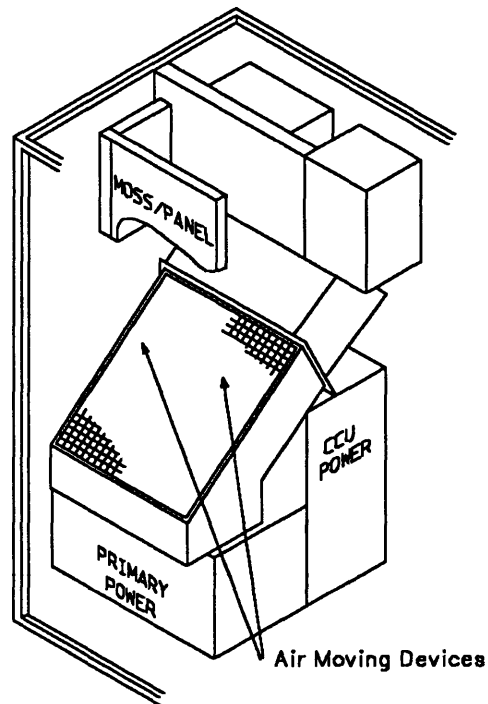

Figure 5-81. Air Moving Devices Location
2. Locate the air moving devices, refer to Figure 5-81.